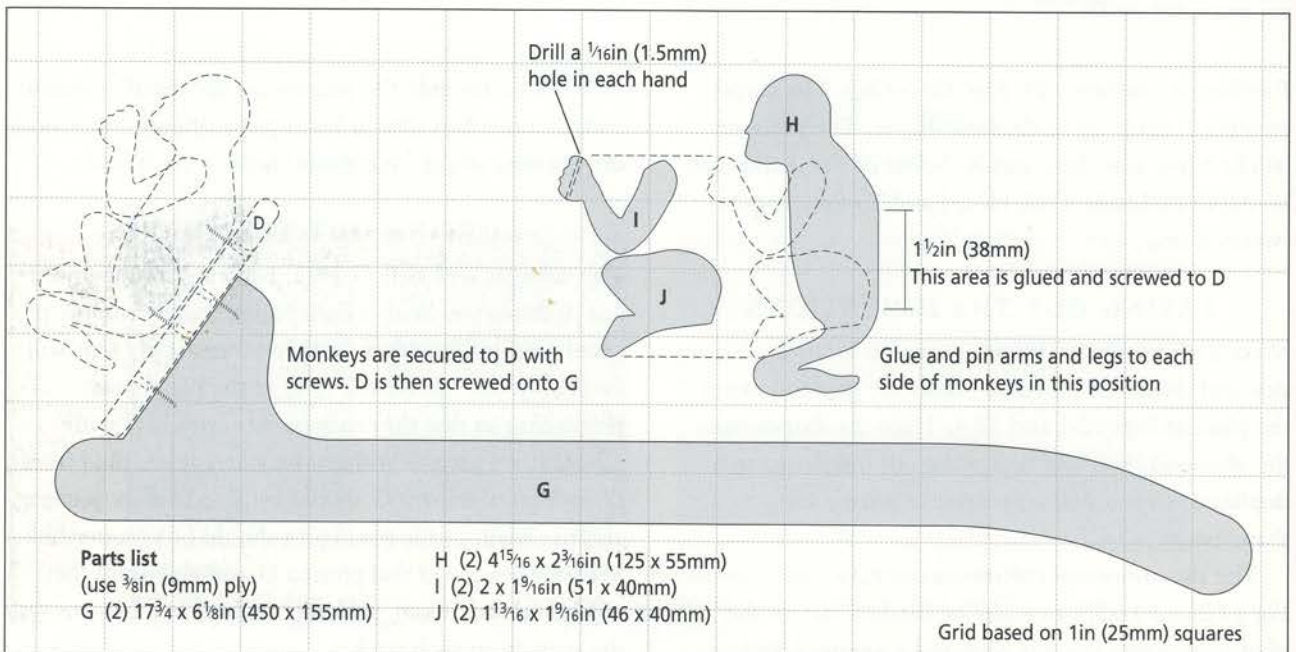

Fig 12.4 Transfer G, H, I and J to your grid. The assembly of the handle is also shown.
Glue and screw (from the underside) the handle (G) to D as shown at Figs 12.4 and 12.11.
Drill a $\frac{1}{16}$ in (1.5mm) hole in each hand of the two monkeys (see Fig 12.4). The cord that the bells are attached to passes through these holes. With a file, round the edges of I, H and J. Follow the filing with sanding, first with coarse, then medium and finally with fine sandpaper.
Assemble the monkeys by gluing and pinning the limbs to the body as shown at Fig 12.4. When the glue has dried, glue and attach each monkey to the underside of D using screws that pass through the holes in D.